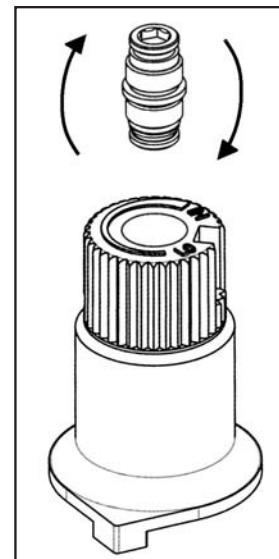

Figure 11: Flip valve screw.
d) Flip the screw (refer to Figure 11).